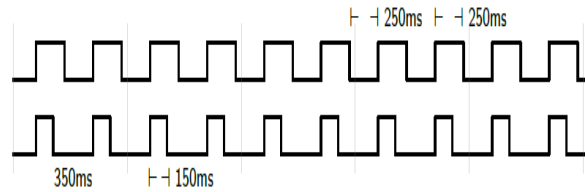

Figure 2.14 Sound indicator timing
- Pulse patterns are shown in the Figure 2.14 Sound indicator timing.